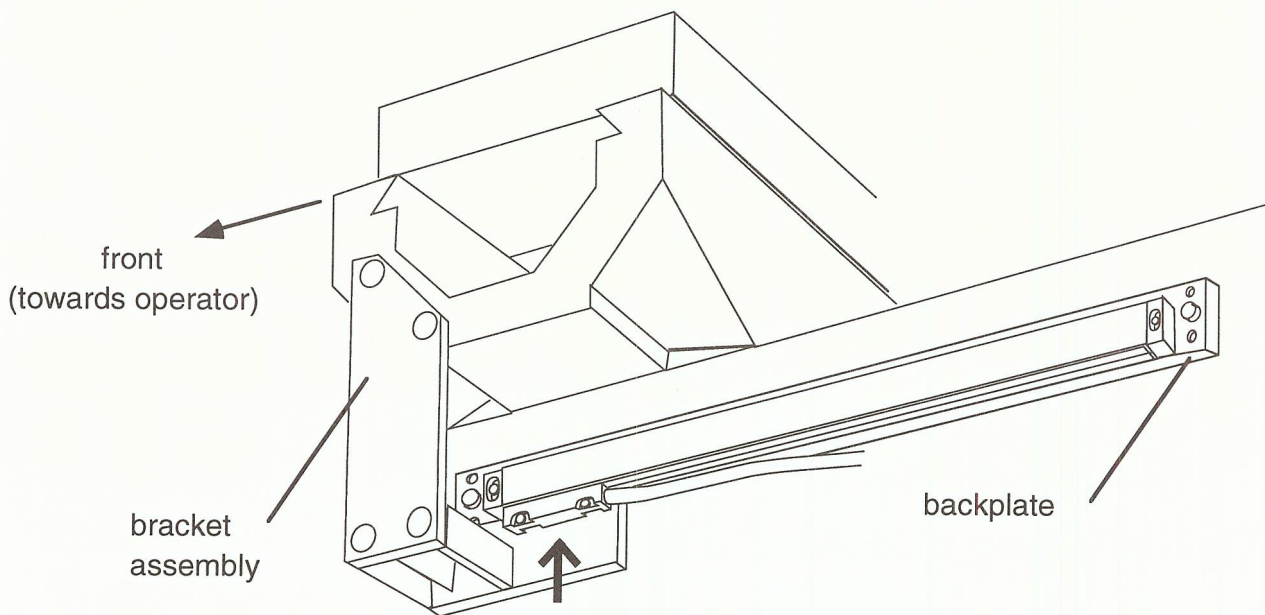

figure 7. Y axis miniscale
- Do not mount the spar directly to an uneven surface. Use a backplate if the surface is not an accurately machined surface. See Figure 7 for example.
1. It is recommended that the miniscale be mounted on the right side of the mill knee as viewed from the front. See Figure 7. Because of mill variations and specific applications, it may be necessary to mount the miniscale on the left side. In most cases, the miniscale is best mounted with the encoder closest to the front of the mill.